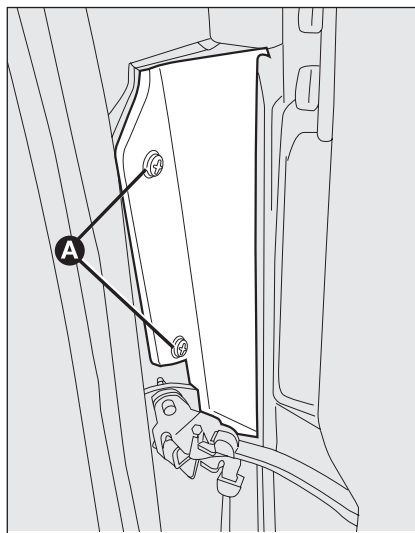
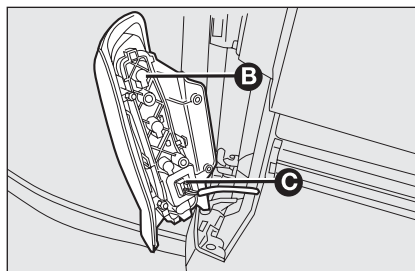

fig. 29
fig. 30
- ☐ remove the screws **A**-fig. 29 to access the light cluster **B**-fig. 30;
- ☐ slide the connector out **C**-fig. 30.